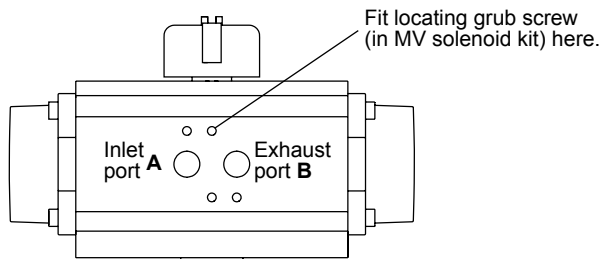

Fig. 3
- Fit the screwed location pin from the MV kit in the top centre position above the actuator ports (see Figure 3). Ensure the pin is screwed far enough into the actuator to allow a good seal to be made i.e. that it is not holding the solenoid away from the actuator.